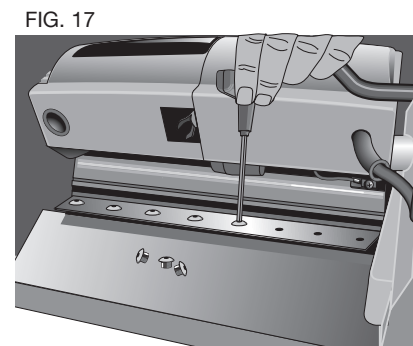
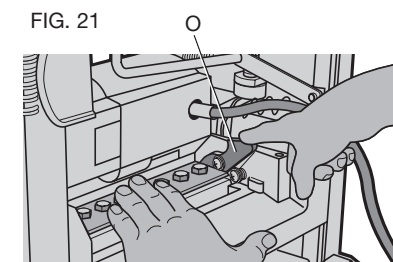

FIG. 17
FIG. 21
If the eight bolts in the knife clamp ARE NOT visible, use a piece of scrap wood to carefully rotate the cutter head until the bolts are accessible and the cutter head locking lever engages as shown in Figure 21 (O). This will prevent further rotation of the cutter head as you change each knife (Fig. 17).
1. Depress the cutter head lock lever (O) as shown in Figure 21.